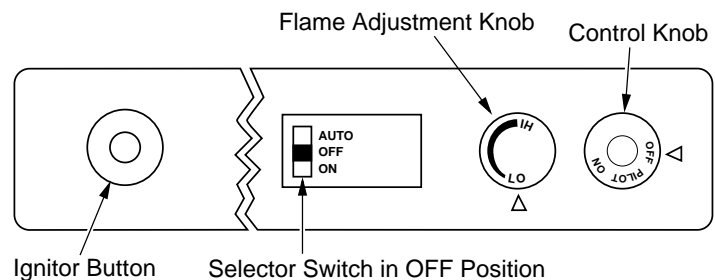

Figure 30 - Control Knob and Ignitor Button Location (Shown as Supplied, No Control Options)
4. Press in and turn control knob clockwise  to the OFF position (see Figure 30).
5. Wait five (5) minutes to clear out any gas. Then smell for gas, including near the floor. If you smell gas, STOP! Follow "B" in the safety information, starting in column 2, page 19. If you don't smell gas, go to the next step.
6. Press in and turn control knob counterclockwise  to the PILOT position. Press in control knob for five (5) seconds (see Figure 30).